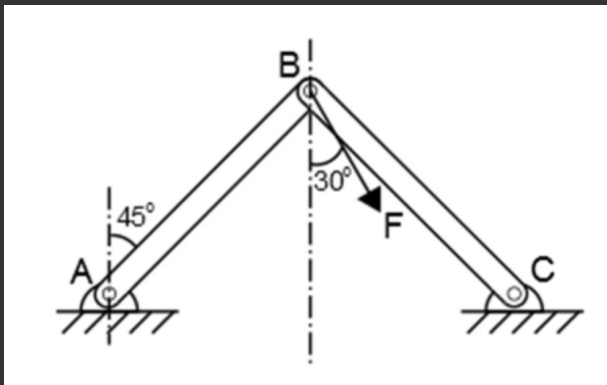

Figure Q1b
- The pin-jointed framework is subjected to an external load as shown in Figure Q1b. If each member has a length L , cross sectional area A and modulus of elasticity E :